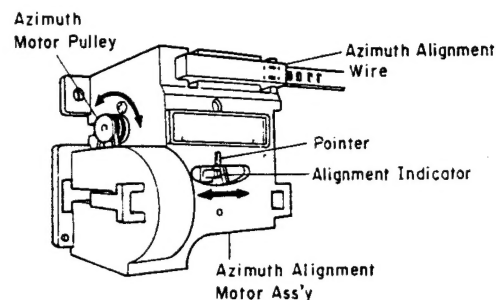

Fig. 2.15
- (1) **Playback Head Height Adjustment**
- (2) **Azimuth Reference Position Adjustment**
- (a) With the Cassette Holder open, press the Forward-Play button. Adjust VR824 on the Auto Azimuth P.C.B. Ass'y so that the Alignment Indicator coincides with the Pointer in the Azimuth Alignment Motor Ass'y. Refer to Fig. 2.15.
- (3) **Playback Head Azimuth Alignment**
- (4) **Phase Adjustment and Record Head Height Adjustment and Azimuth Alignment**